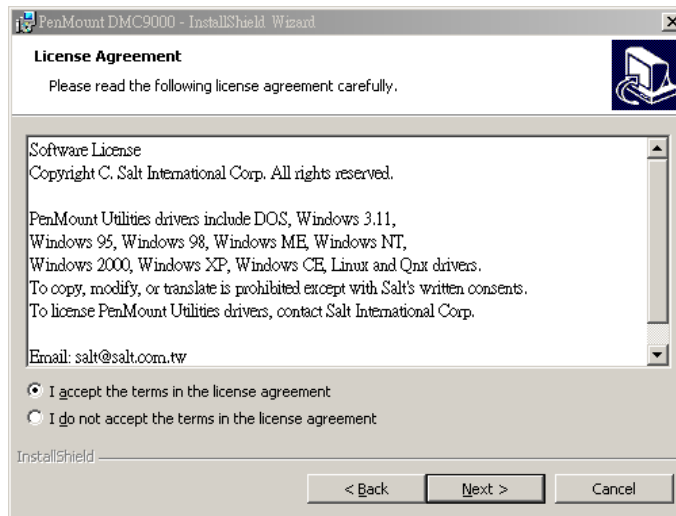

Figure 7-42: License Agreement
Step 4: The license agreement shown in Figure 7-42 appears. Agree to the license by selecting "I accept the terms in the license agreement".